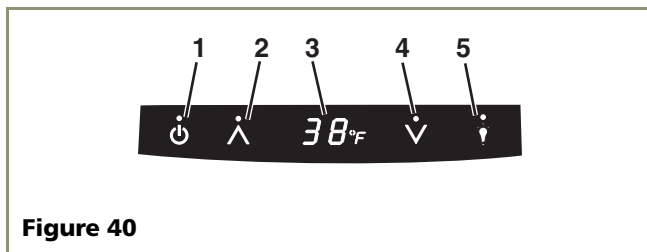

Figure 40
3. Open the door and press the **POWER** icon (see **Figure 40,1**) to turn the unit **OFF**.
Once installation and leveling is complete, the unit is ready for initial start-up and operation. The **POWER** icon is located inside the unit.(see **Figure 40,1**).
2. Open the door and press the **POWER** icon on the display to turn the unit on (see **Figure 40,1**).